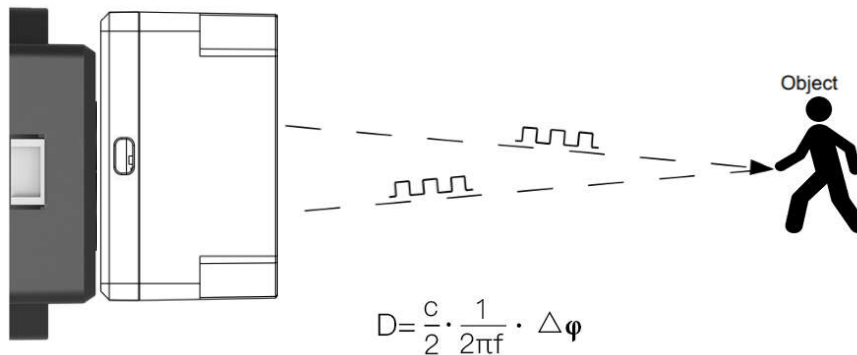

Figure 1 Schematics of ToF Principle
• TFmini Plus is based on ToF, namely, Time of Flight principle. To be specific, the product emits modulation wave of near infrared ray on a periodic basis, which will be reflected after contacting object. The product obtains the time of flight by measuring round-trip phase difference and then calculates relative range between the product and the detection object, as shown in Figure 1.